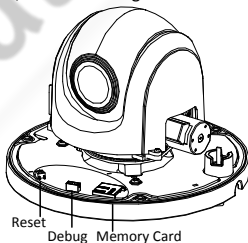

Figure 2-8 DE3xxx Series PTZ Camera
1. Loosen three screws on the bottom of camera to reveal the memory card slot, as shown in Figure 2-8.